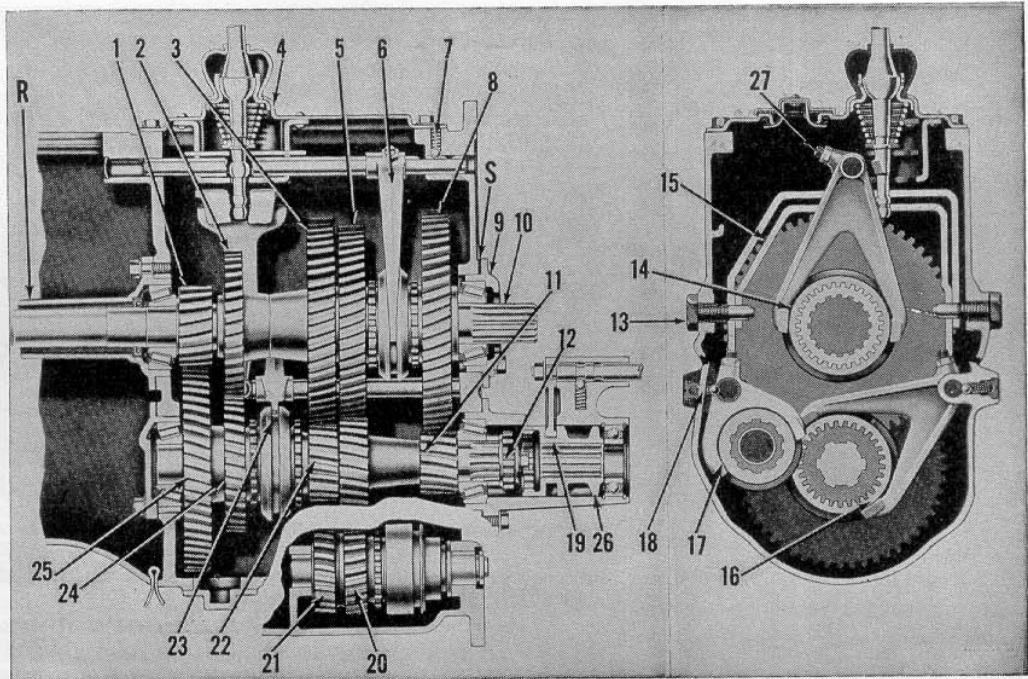

Fig. FO57—Transmission side and end views on model 8N tractor.
**77. SHIFTER RAILS AND FORKS.** Rails and forks may be removed without performing a front section split, after transmission cover and gear shift lever assembly are off and rear section is separated from transmission case as outlined in paragraph 70A. Lift out top shifter rail spring and detent ball (7—Fig. FO57) back off shifter fork lock screw (27) and remove shifter rail and fork. Remove shift plate
**78. MAINSHAFT.** After transmission is removed as outlined in paragraphs 70 and 70A and top shifter rail and fork are out, proceed as follows: Remove mainshaft rear bearing retainer (9—Fig. FO57) and shims. Remove clutch shaft (main drive gear) and retainer (R) as a unit. Remove the reverse idler shaft shift rail, allowing fork to remain in housing. Lift out the mainshaft and gear cluster as a unit. Renew worn or damaged parts and reinstall shaft and gears, assembling in
79. MAIN DRIVE GEAR (Clutch Shaft). This gearshaft (1—Fig. FO57) may be removed after transmission and engine are separated (as in paragraph 65). However, if bearing adjustment is required it will be necessary to perform the rear section split (as in paragraph 70A) to gain access to the mainshaft bearing shims (S) which control the adjustment. Remove gearshaft and retainer (R) as a unit. Renew worn or damaged parts and reassemble shaft
80. COUNTERSHAFT. This shaft (11—Fig. FO57) may be removed after mainshaft is out but before reverse